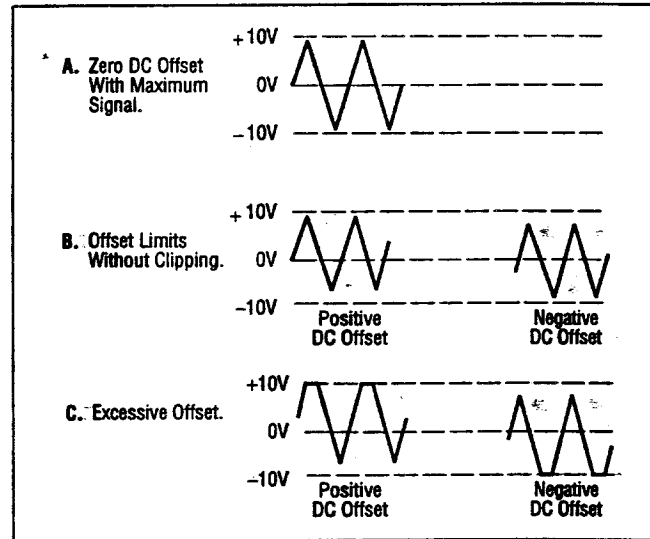

Figure 3. Use of DC OFFSET Control
- Adjust the amplitude of the output as desired using the **OUTPUT LEVEL** control (4). Rotation of this control varies the amplitude from maximum to 20 db below maximum. An additional attenuation of -20db is available by pushing in the **-20dB** switch (11). The attenuation factors can be combined for a total of -40db. The maximum signal level is 10 V p-p (into 50 Ω).
7. A superimposed DC component can be added to the output signal by engaging the **DC OFFSET** switch (12) to enable operation of the **DC OFFSET** control (5). Rotation of this control adds a positive or negative DC component to the output signal. The DC component introduced is independent of the **OUTPUT LEVEL** control and can be varied by ± 10 volts open circuited or ± 5 volts into $50\ \Omega$. The DC Offset does not affect the **TTL/CMOS** output jack. The effect of DC OFFSET is shown in Fig. 3.
6. Remember that the output signal swing of the generator is limited to ± 10 volts open circuited or ± 5 volts into $50\ \Omega$, and applies to the combined peak-to-peak signal and DC offset. Clipping occurs slightly above these levels. Fig. 3 illustrates the various operating conditions encountered when using the DC offset. If the desired output signal is large or if a large DC offset is required, an oscilloscope should be used to make sure that the desired signal is obtained without undesirable clipping.